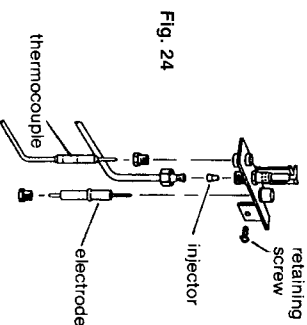

Fig. 24
Refer to Fig 24
8.6.4.3 Release screw securing pilot burner assembly. (fig. 24).
- 8.10.3 Remove 3 screws holding pressure differential switch cover (fig 24) and remove cover.